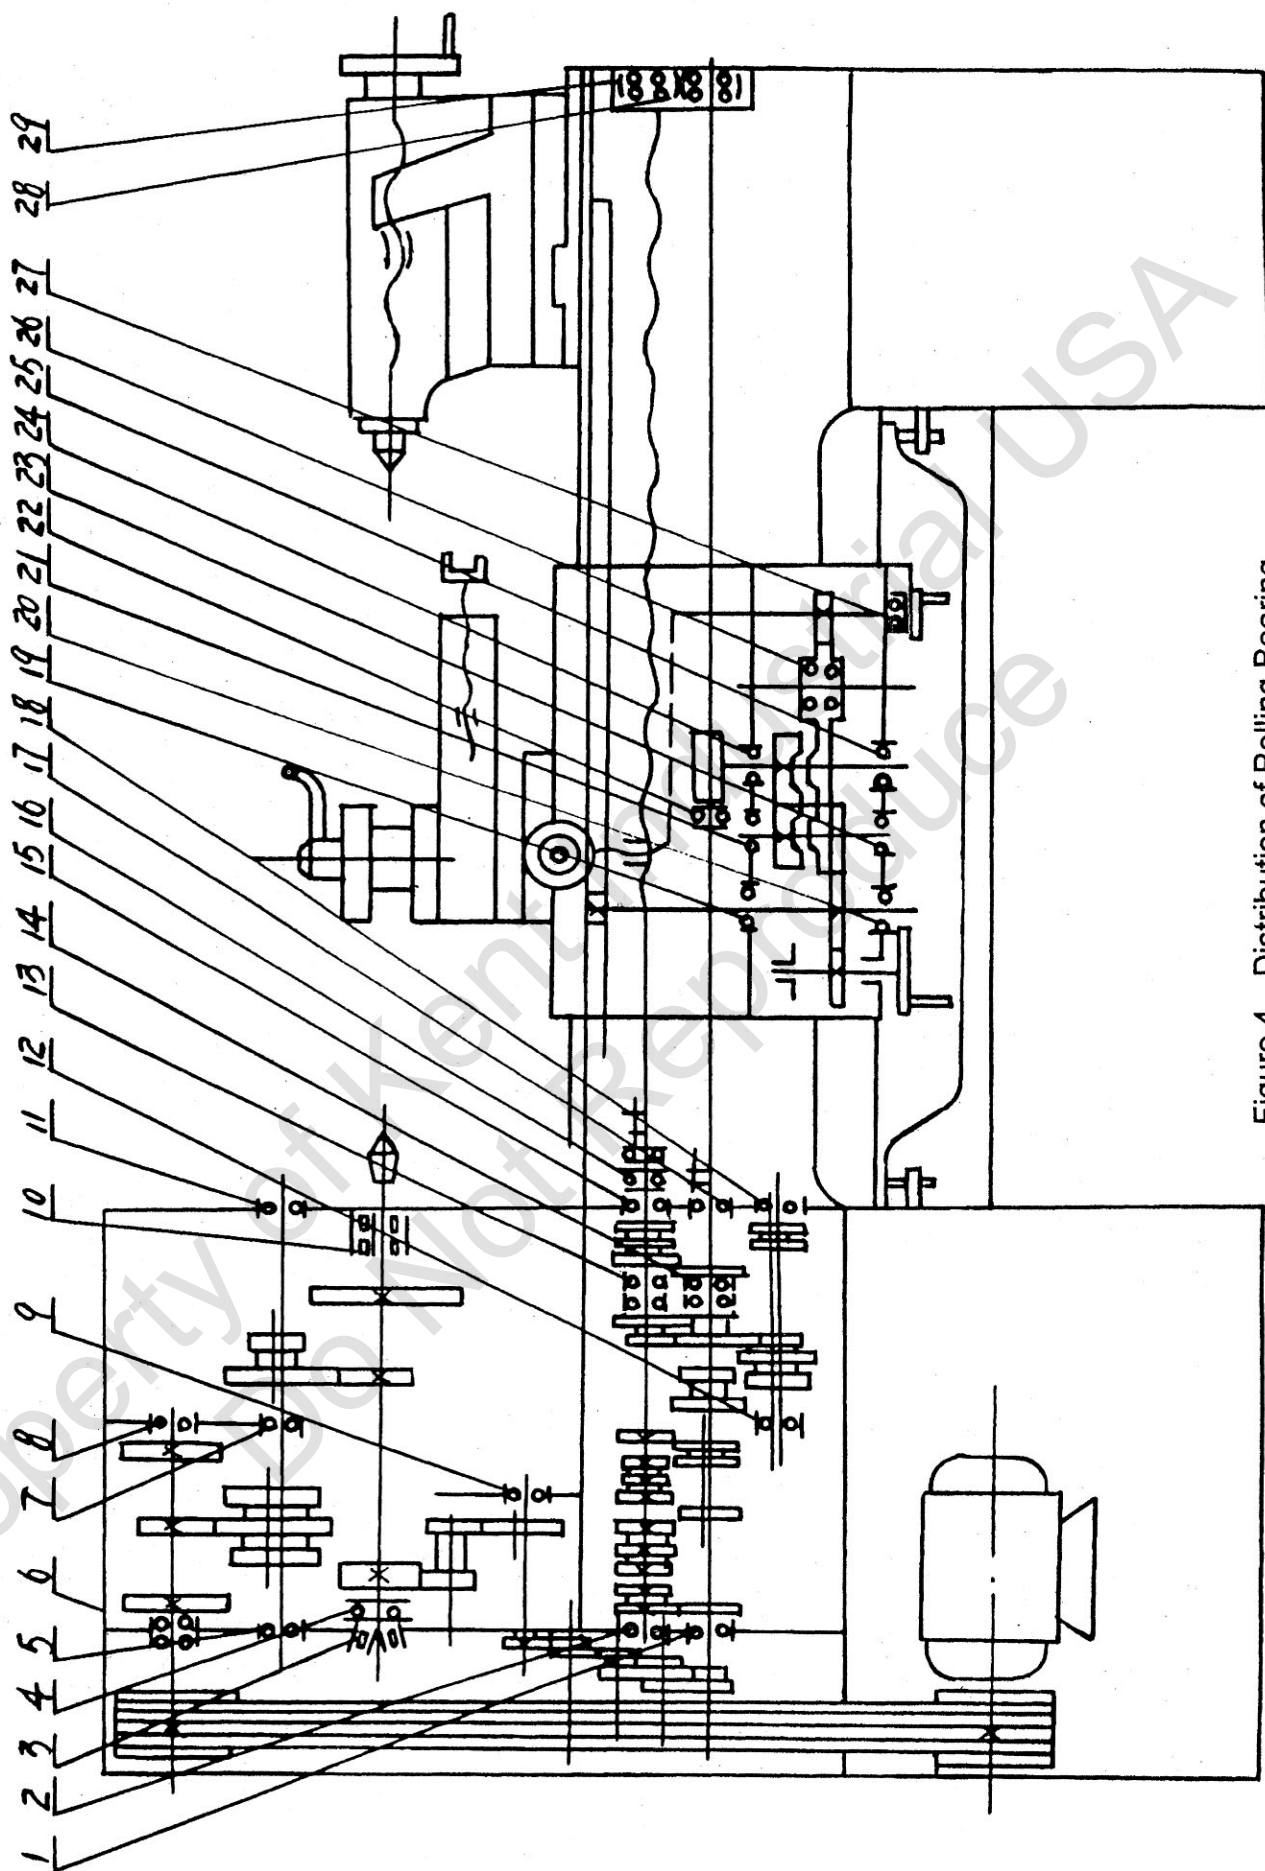

Figure 4 Distribution of Rolling Bearing
4.3 A summary of gears, worm gear and worm (See Fig. 4)
4.4 Detail table for rolling bearings (See Fig. 4)